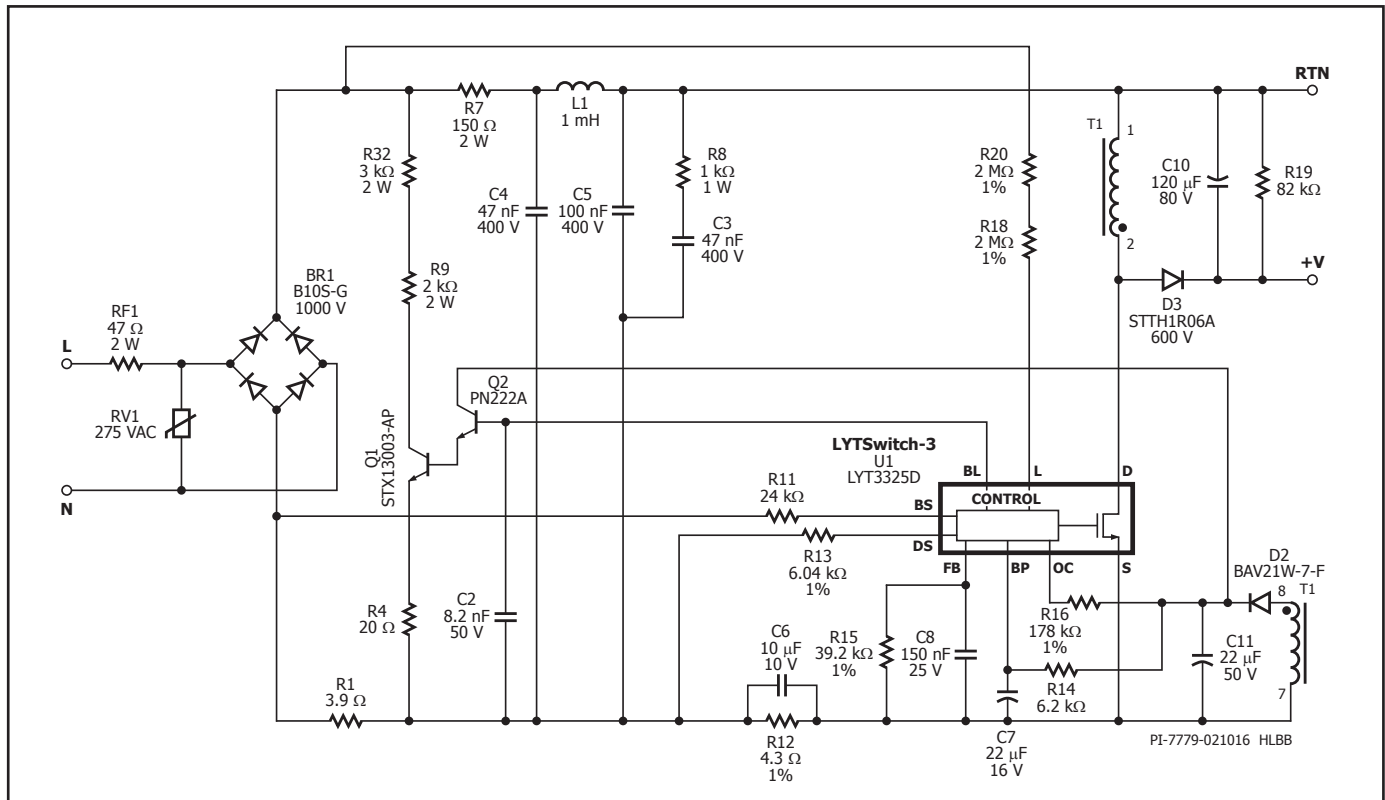

Figure 7. DER-524 8 W, 72 V, 115 mA Non-Isolated Dimmable A19 LED Bulb Driver using LYT3325D.
The circuit shown in Figure 7 is configured as a buck-boost power supply utilizing the LYT3325D from the LYTSwitch-3 family of ICs. This type of LED driver configuration is common for dimmable bulb applications where high dimmer compatibility, accurate regulation, high efficiency, high power factor and low ATHD are required along with low component count for high reliability. The output can drive an LED load from 68 V to 76 V with a constant output current of 115 mA  $\pm$ 3% across an input range of 195 VAC to 264 VAC and can operate in maximum ambient temperature of 100 °C with good margin below the thermal foldback protection point. It has an efficiency of greater than 86%, very low ATHD% (less than 20%) and high power factor of greater than 0.9 measured across the input range.
AC input power is rectified by bridge BR1. A 1000 V voltage rating is recommended (the maximum clamp voltage for a typical 275 V varistor is 720 V). The rectified DC is filtered by the input capacitors C4 and C5. Too much capacitance degrades power factor and ATHD, so the values of the input capacitors were adjusted to the minimum values necessary to meet EMI with a suitable margin. Inductor L1, C4 and C5 form a  $\pi$  (pi) filter, which attenuates conducted differential and common mode EMI currents. Optional resistor R10 across L1 damps the Q of the filter inductor to improve filtering without reducing low frequency attenuation. Fuse RF1 in Figure 7 provides protection against catastrophic failures such as short-circuit at the input. For cost reduction, this can be replaced by a fusible resistor (typically a flame proof wire-wound type) which would need to be rated to withstand the instantaneous dissipation induced when charging the input capacitance when first connected to the input line.
Selection of fuse RF1 in Figure 7 type and rating is dependent on input surge requirements. Typical minimum requirement for bulb application is 500 V differential surges. This design meets a 1 kV surge specification, so a 47  $\Omega$  fusible resistor in Figure 7 was used. A fast-blow fuse with high ampere energy ( $I^2T$ ) rating could also be used.
The bias winding voltage is proportional to the output voltage (controlled by the turns-ratio between the bias supply and output-main winding). This allows the output voltage to be monitored without the need for output-side feedback components. Resistor R16 in Figure 7 converts the bias voltage into a current which is fed into the OUTPUT COMPENSATION (OC) pin of U1. The OUTPUT COMPENSATION pin current is also used to detect output overvoltage which is set to 30% above the nominal output voltage. Once the current exceeds the  $I_{OV}$  threshold the IC will trigger a latch, which disables switching which prevents the output from rising further. An AC recycle is needed to reset this protection mode once triggered.